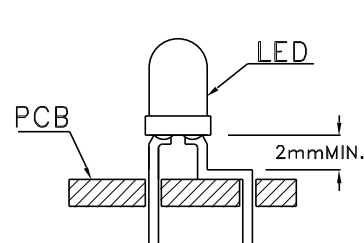

Fig. 5
- 1. Maintain a minimum of 2mm clearance between the base of the LED lens and the first lead bend. (Fig. 5 and 6)